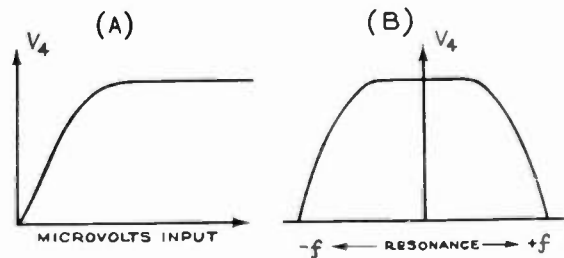

Fig. 2—Limiter rectified grid voltage.
In actual practice it has not only been found impossible to keep the over-all selectivity characteristic sufficiently symmetrical, but the curve shape will alter as the strength of the incoming signal changes. Moreover the selectivity curve is so broad that the eye is insensitive and on very strong signals a glance at the curve in Fig. 2 (B) will show how little aperture change can be expected for quite a departure from resonance.